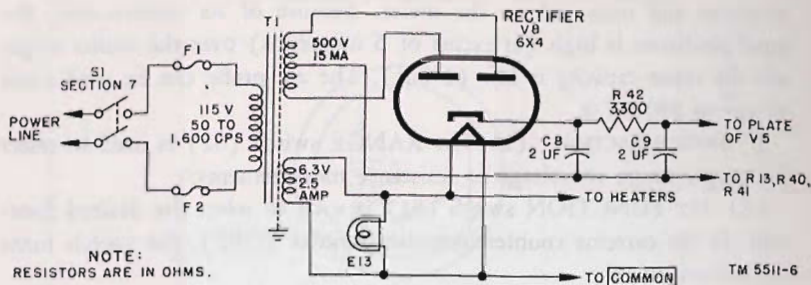

Figure 6. Power supply, simplified schematic diagram.
a. Figure 6 is a simplified schematic diagram of the power supply. It includes a conventional full-wave rectifier using a 6X4 tube (V8) to supply 310 volts at 12 ma for the amplifier plate supply and 6.3 volts at 2.5 amperes for the pilot light and the heaters of the tubes. The power supply is designed to operate over a frequency range of 50 to 1,600 cps and takes approximately 20 va at 115 volts.